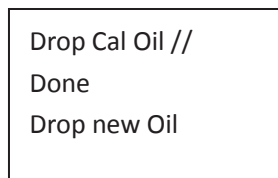

Fig.4
4. Press the Power button to execute calibrating until the display shown done as in Fig.4 below. Wipe the oil bowl with clean and dry paper towel.